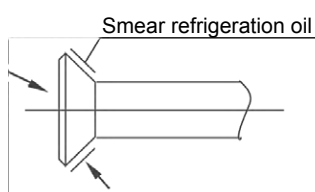

Figure 5.1
- b. Smear the refrigerator oil (it must be engine oil which is compatible with the cooling medium of this type) on the outside surface of flared joint and the conical surface of connecting nut and screw it 3 or 4 rounds with your hand (Fig. 5.1) before screwing the flared nut up.